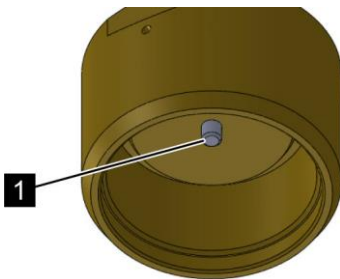

Fig. 178: Release pin
8. ➤ Check whether the release devices of the associated extinguishing agent container/s has/have been activated (Fig. 178/1) and that no selector valve is open.